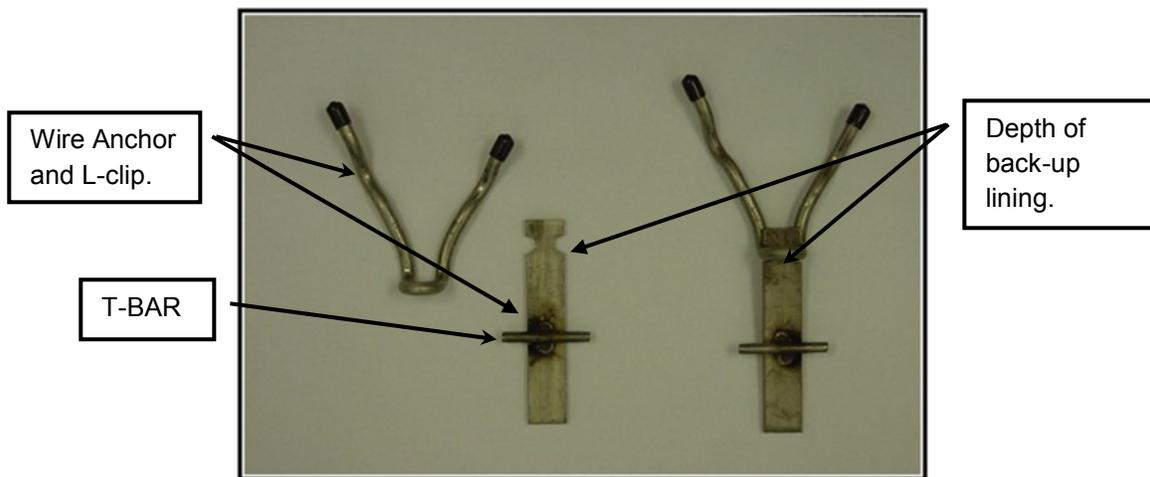

Figure 10. Example of Wire V Anchor and H-W L-clip with T-bar for use with two component linings.
When using metallic anchors for applications below 2000°F (1093°C), H-W Refractories Cement & Lime group recommends lengths up to 80% of the total monolithic lining. For most dual component linings, H-W L-Clips are used in conjunction with the proper Y or V wire anchors shown below in Figure 10. The H-W L-Clips afford the lining flexibility at the interface between hard face lining and the back-up lining. This is because the anchor is not welded to the clip, but snaps onto the slotted end of the clip. Anchors that are welded to the shell of a vessel form a rigid framework for a single component lining. The L-Clip is welded at the foot to the shell to form the framework for the insulating back-up. The V type anchor forms the framework for the hard face, while the flexible connection between the two allows stress relief between the two components of the lining should they expand or contract at different rates.
4. When using L-clips in conjunction with metallic anchors, the V-anchors are attached after the back-up lining is applied. Figure 10 shows how the design of the L-clip indicates the proper back-up lining depth, as well as attachment of the V-anchor to the L-clip.